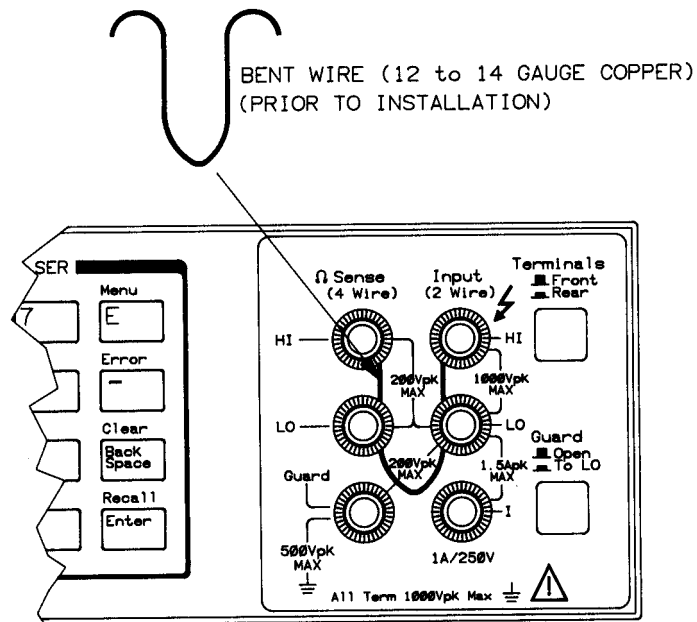

Figure 1. 4-Terminal Short
1. Connect a low thermal short across the front panel **HI** and **LO** input terminals of the DMM under test (see Figure 1).
- A low-thermal 4-terminal short for the offset adjustments (this is typically a bent piece of copper wire as shown in Figure 1).
6. Allow the multimeter to warm up for 4 hours from the time power was applied. (At this point, you can connect the 4-terminal short to the front terminals as shown in Figure 1 to prepare for the Front Terminal Offset Adjustment.)
Equipment required: A low-thermal short made of 12 or 14 gauge solid copper wire as shown in Figure 1.
2. Connect a 4-terminal short across the front panel **HI** and **LO** Input terminals and the **HI** and **LO** Ω Sense terminals as shown in Figure 1.